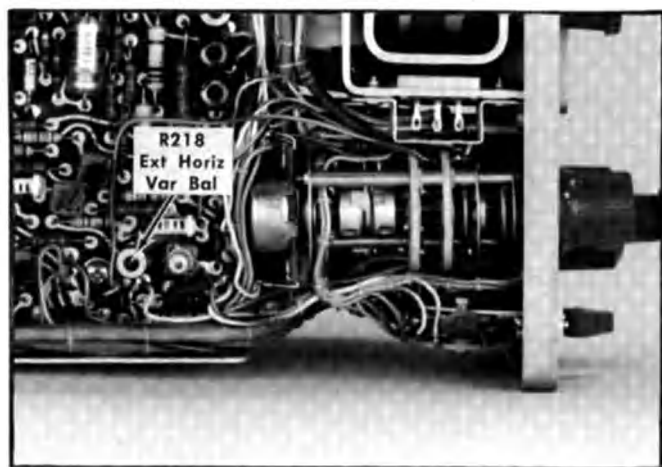

Fig. 6-19. Location of external horizontal variable balance adjustment (Main board).
- ADJUST—Ext Horiz Var Bal adjustment, R218 (see Fig. 6-19), for no trace shift as the EXT HORIZ VAR control is rotated. If necessary, use the horizontal POSITION control to keep the dot on the screen during adjustment.